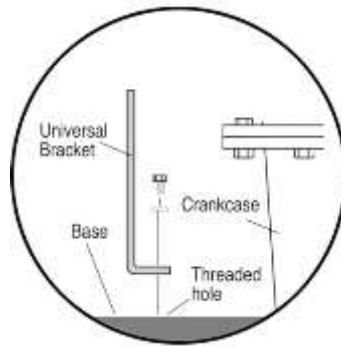

Figure 3A
1. Install the universal bracket to the base as shown in Figure 3A using two flat washers and two 5/16 inch dia. bolts or others as necessary.